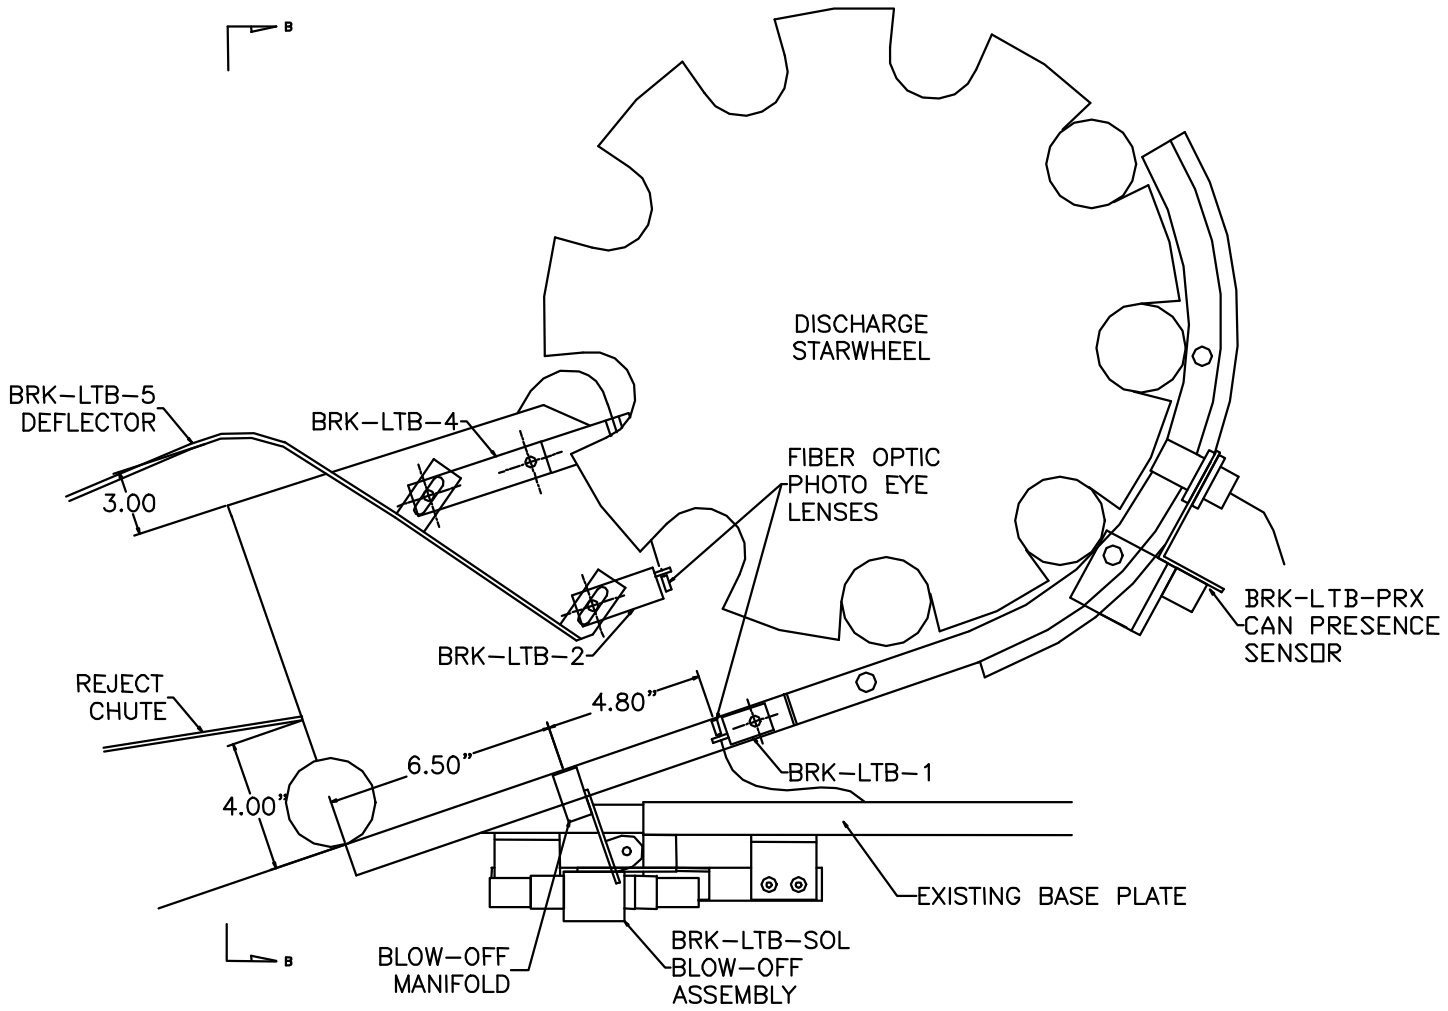

Figure 2.1 - Tester Discharge Detail (View A-A)
- 2) Remove the 3/8 spacer closest to the discharge starwheel of the left lower can guide rail and replace with the BRK-LTB-1 Photo Eye Fiber lens bracket as shown in figure 2.1 and 2.2.
- 3) Install BRK-LTB-4 (2ea.) brackets to existing 3/8-16 holes as shown in figures 2.1 and 2.2.
- 4) Install BRK-LTB-5 Deflector plate and BRK-LTB-2 and BRK-LTB-3 brackets using 1/4-20 and 3/8-16 hardware as shown in figures 2.1 and 2.2. Note that the BRK-LTB-2 Photo Eye Fiber lens must be adjusted to "look" directly at the BRK-LTB-1 Photo Eye Fiber Lens.
- 5) Adjust the BRK-LTB-5 Deflector approximately as shown in figure 2.1.
The BRK-LTB-SOL Reject Blow-off assembly is mounted below the discharge chute of the tester. Refer to figures 2.1 and 2.2 through-out the following steps. Follow the steps below to mount the BRK-LTB-SOL.
- 1) The BRK-LTB-SOL assembly is mounted underneath the discharge chute with the blow-off manifold protruding through the opening in the existing horizontal base plate up to the plane that the cans roll down in the chute (refer to figure 2.1).
- 4) Adjust the BRK-LTB-SOL assembly such that the dimension between the center of the reject manifold and the lip of the reject chute is 6.50" and the dimension between the Photo Eye Lens in the BRK-LTB-1 and the center of the reject manifold is 4.80" as shown in figure 2.1.
The BRK-LTB-PRX Can Presence sensor is mounted in the can guides of the tester discharge starwheel as shown in figure 2.1. To mount the sensor, perform the following:
- 1) Remove one 3/8-16 bolt on each can guide (both left and right) at the location shown in figure 2.1.